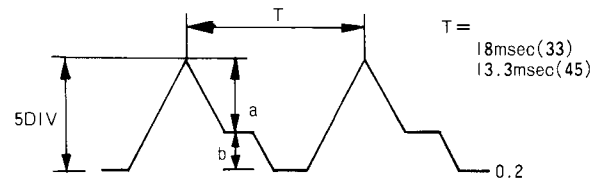

Fig. 9.15 Adjustment Waveform
3. With a waveform like that shown in Fig. 9.15 in the synchroscope, vary the gain to adjust the peak-to-peak distance in the sawtooth waveform to five divisions.
4. Then adjust VR1 to obtain an a:b ratio of 3:2 in Fig. 9.15 (taking every precaution to eliminate unwanted noise).